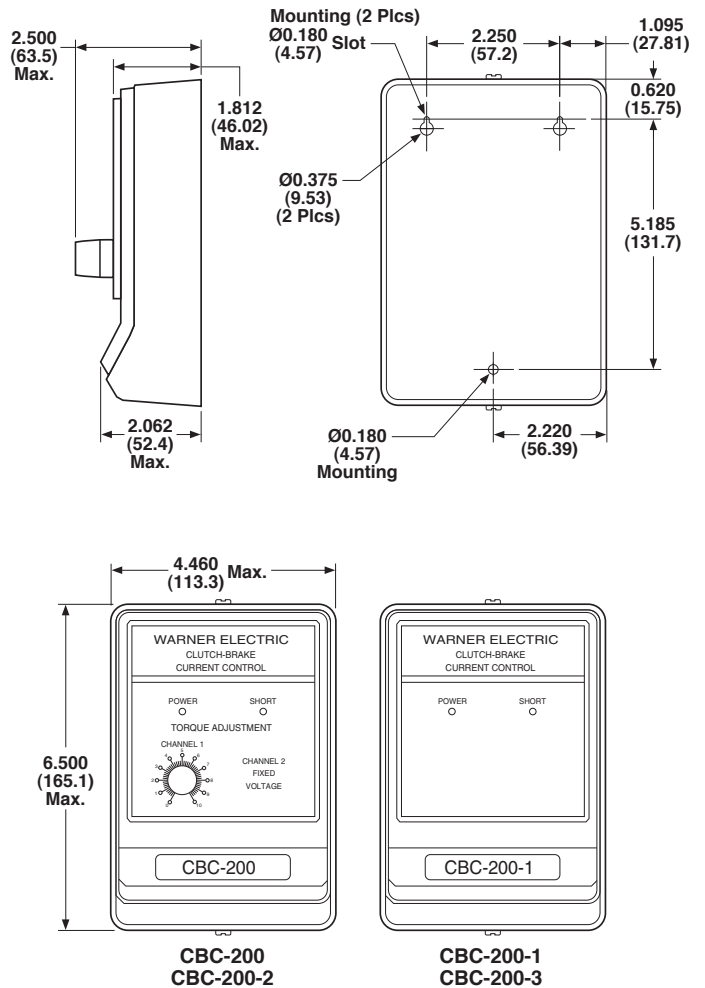

Figure 1
- ❑ 2. Set the control on the mounting surface and mark for the three mounting holes in accordance with “Dimensions.” (See Figure 1)